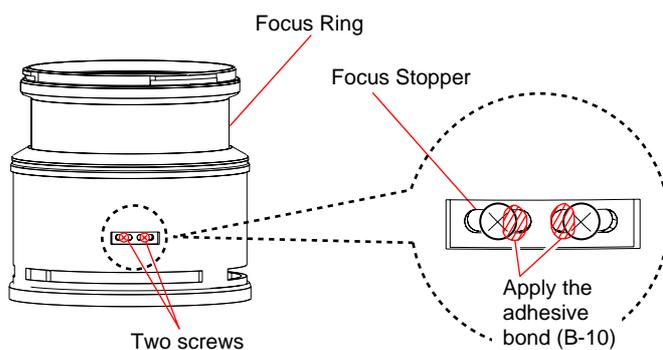

Fig.4-4-8
- 11) After the adjustment is completed, apply the adhesive bond (B-10) to the position shown in the Fig.4-4-8.